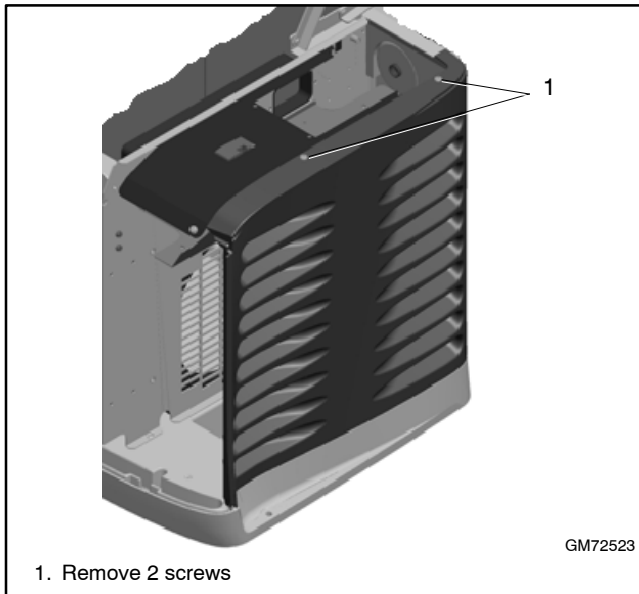

Figure 7-5 Front Panel (air intake end panel)
- Remove two screws and remove the front panel. See Figure 7-5.